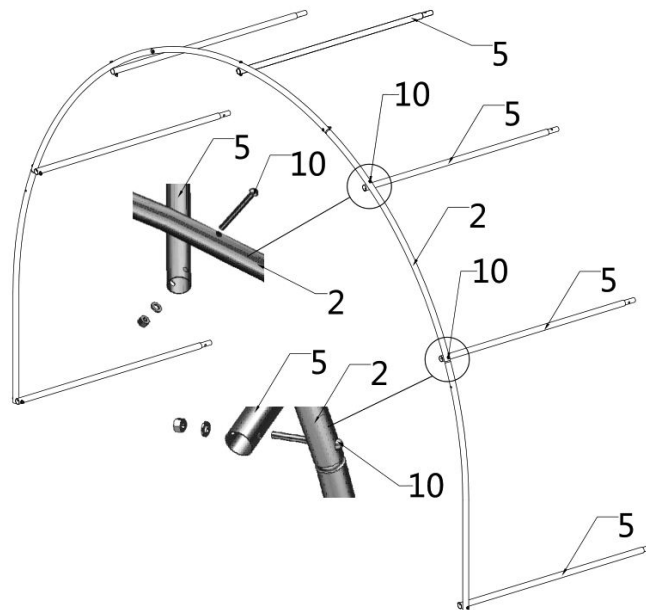

Figure 5
- First, erect the front truss. We suggest two or three people. One to two people hold the truss and keep it upright and stable, while the other person installs the roof purlin (#5). Use bolts (#10) to link the truss to the cross pull tube, and then tighten all bolts. (refer to Figure 5)